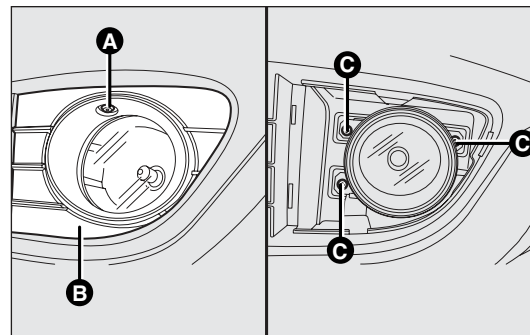

fig. 167
- ☐ loosen the screw A-fig.167 and remove the protection template B;